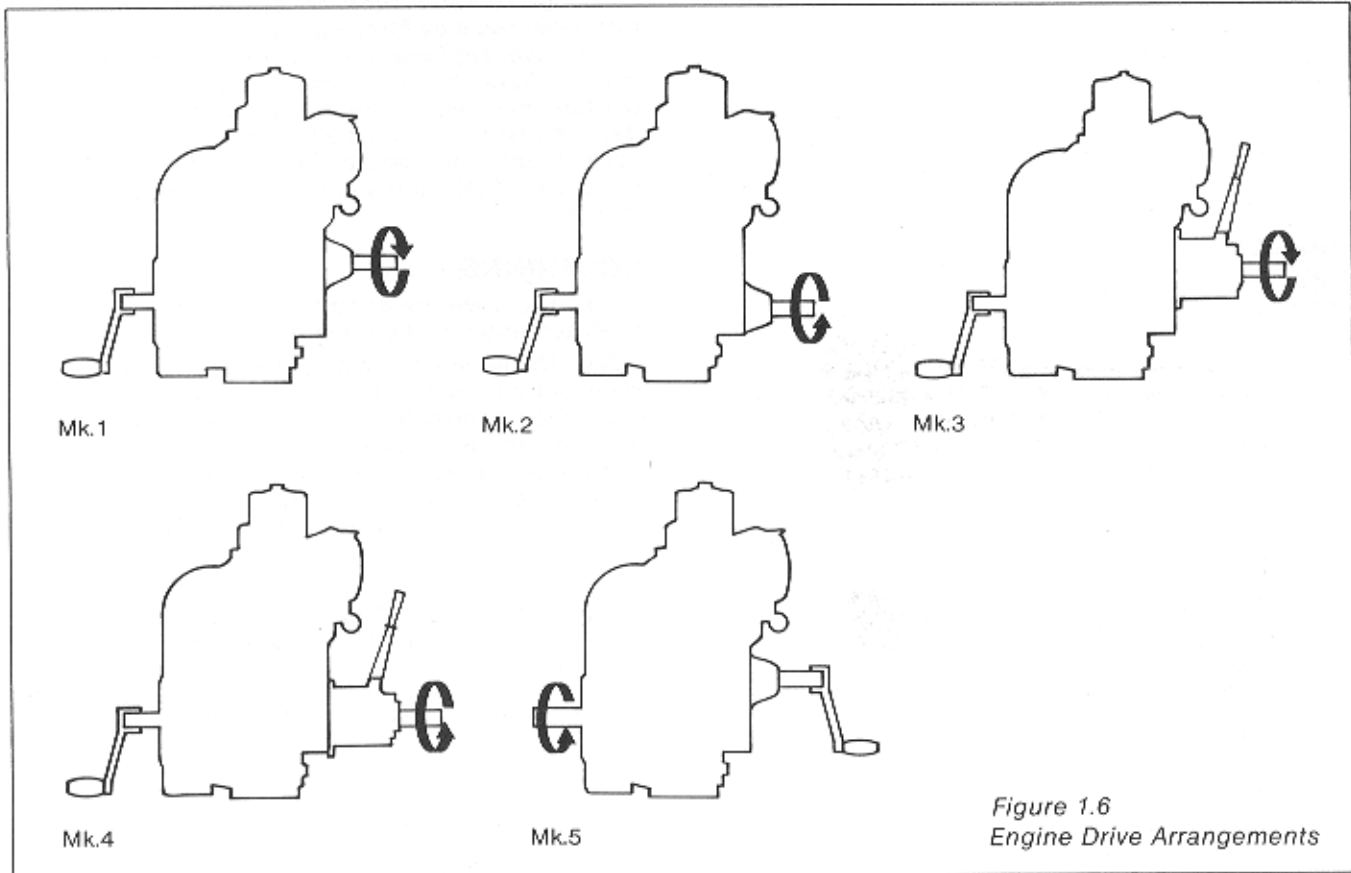

Figure 1.6
1.36 Petter engines drives are varied and are dependent upon application. They are classified by Mark (MK) Numbers as shown in Figure 1.6 and are as follows: